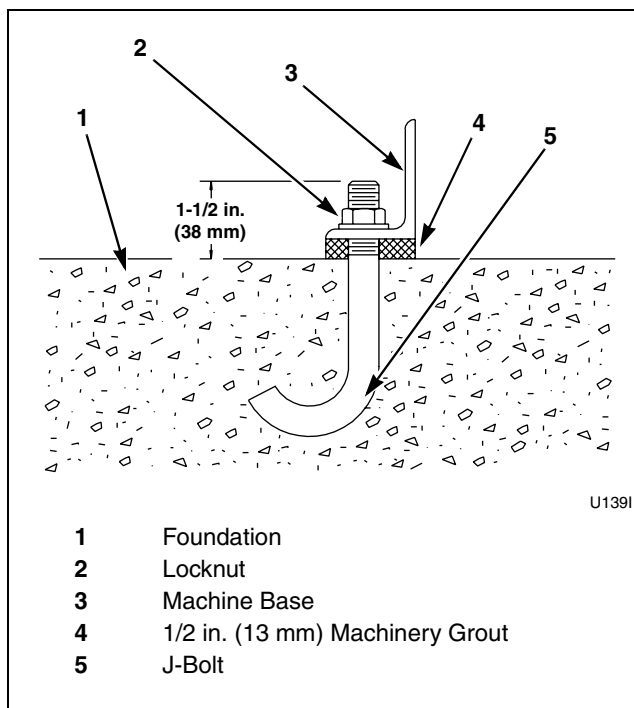

Figure 17
*Figure 17* shows the completed J-bolt installation with grout.